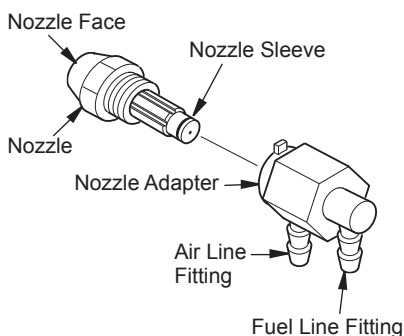

Figure 26 - Nozzle and Nozzle Adapter
6. Carefully remove nozzle from the nozzle adapter using 5/8" socket wrench (see Figure 26).
9. Replace nozzle into nozzle adapter until nozzle seats. Tighten 1/3 turn more using 5/8" socket wrench 4.5 to 5.1 N-m (40 to 45 in-lbs). See Figure 26.